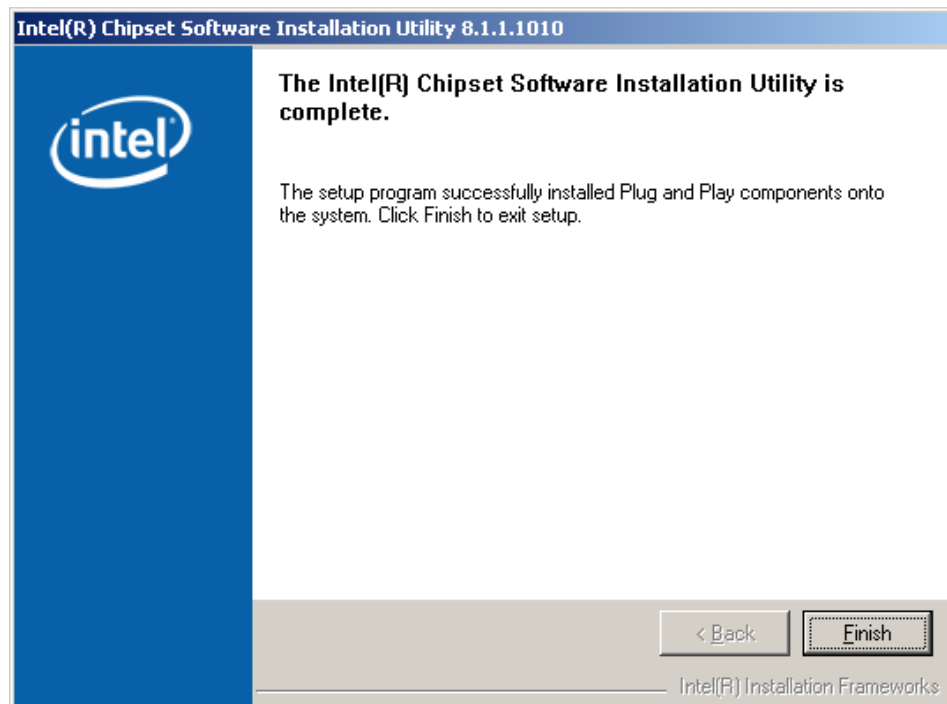

Figure 7-7: Chipset Driver Installation Complete
Step 10: After the driver installation process is complete, a confirmation screen (**Figure 7-7**) appears.